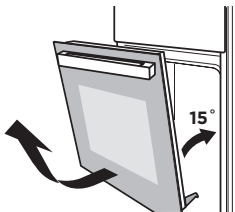

Figure 2
- 2. Close the door to an angle approximately 15°. Lift up and slowly pull the door out from the oven.(Figure 2)